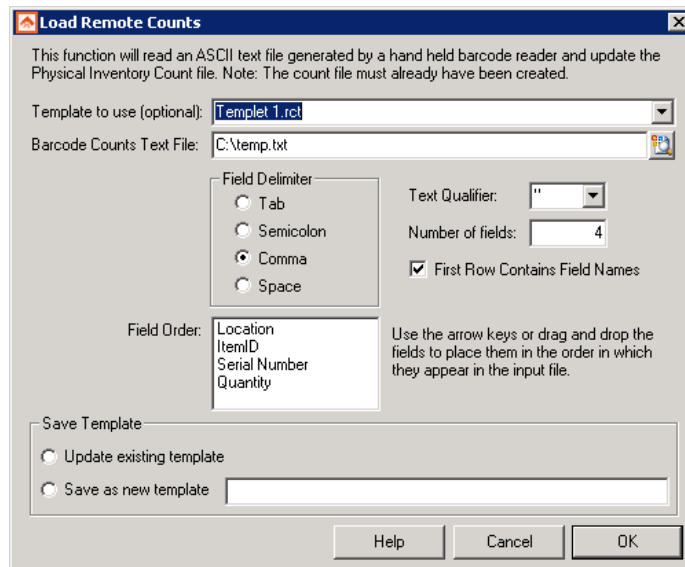

Figure 7: Import Physical Inventory Counts
- The settings, shown in Figure 7, are: **Field Delimiter** should be **Comma**; the **Text Qualifier** should be set to Double Quotes (""); the **Number of fields** is **4**; and **First Row Contains Field Names** must be checked.